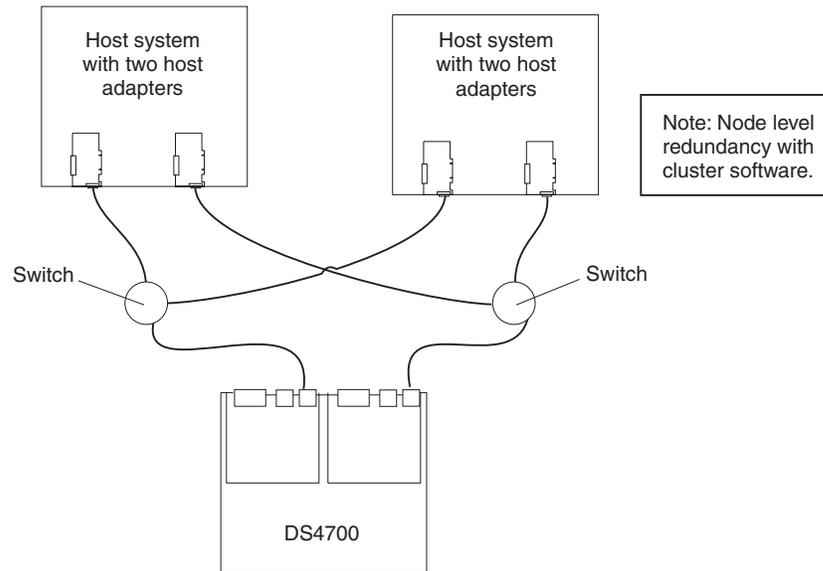

Figure 81. Example of a dual SAN fabric configuration
- Dual SAN fabric configuration, as shown in Figure 81 on page 101
In Figure 81, the fibre channel switches are connected together via the inter-switch link (ISL) to form a dual SAN fabric.